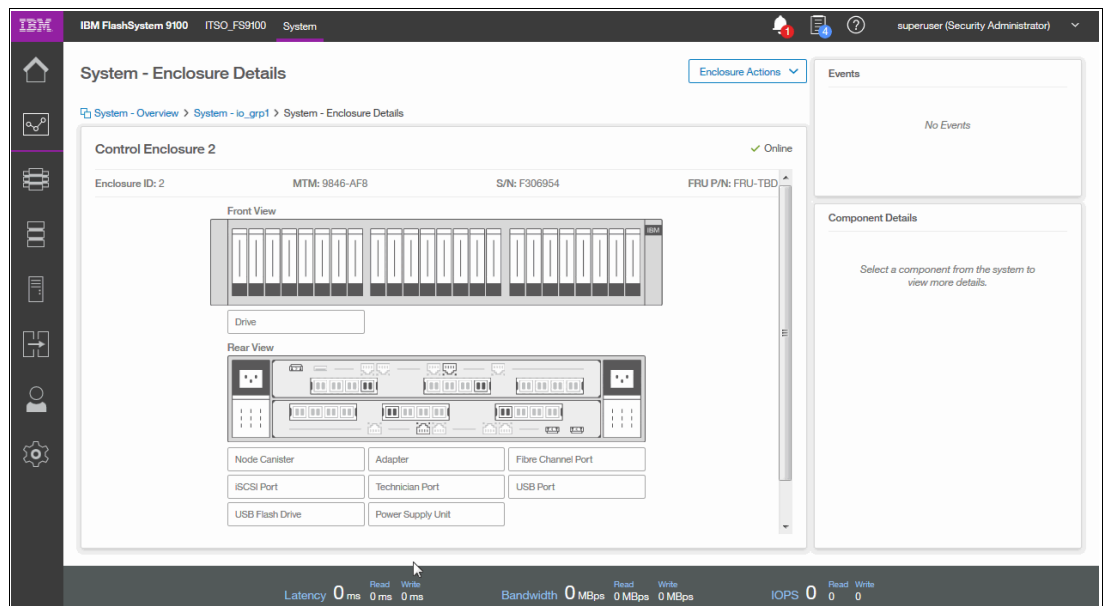

Figure 5-44 Control Enclosure 2 details
9. Click > on Control Enclosure 2 to view enclosure details, as shown in Figure 5-44.